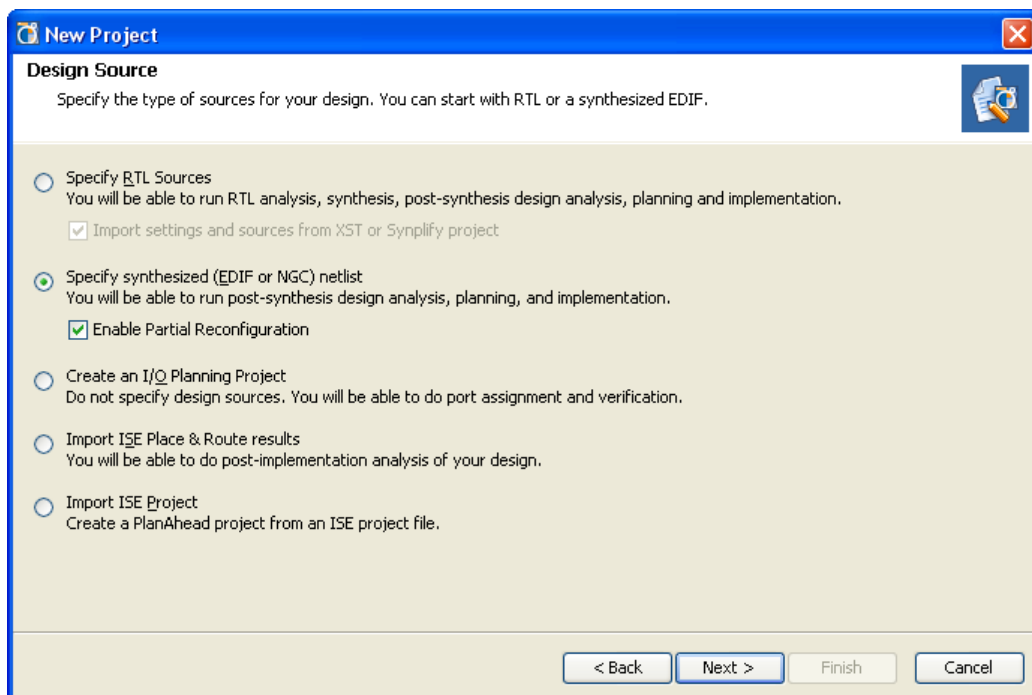

Figure 3-2: New Project Wizard: Design Source Page
Designate the Design Source input format by selecting one of the options, shown in Figure 3-2, page 36.
2. In the Design Source page shown in Figure 3-2, page 36, select the **Specify RTL Sources** option.